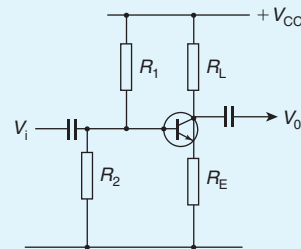

Figure 12.29
- In questions 11 to 15, which refer to the amplifier shown in Fig. 12.29, select the correct answer from those given.